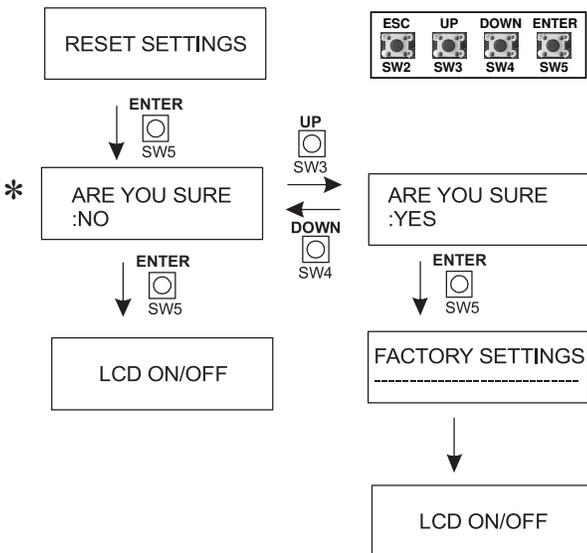

Figure 11: Reset Settings Submenu
Note: If the Electronic Controller has settings other than the default settings, you may want to make note of them before you reset the Electronic Controller. The default values are denoted in Figures 11 through 21 with an asterisk *.
- Figure 11 ARE YOU SURE